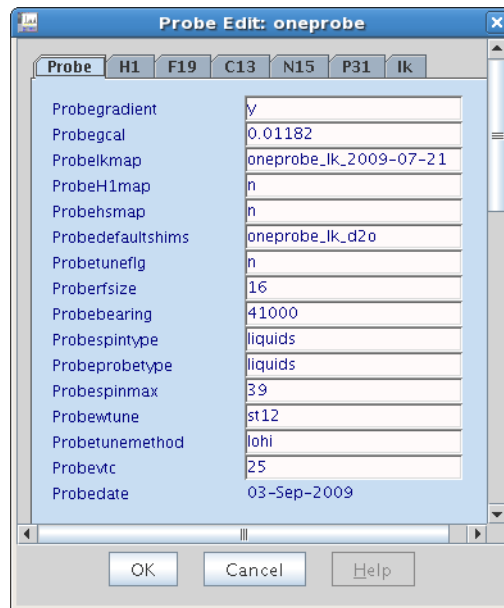

Figure 11 Probe file edit window
- 4 Check the **Edit** button—editing options appear in the Probe window, see Figure 11.